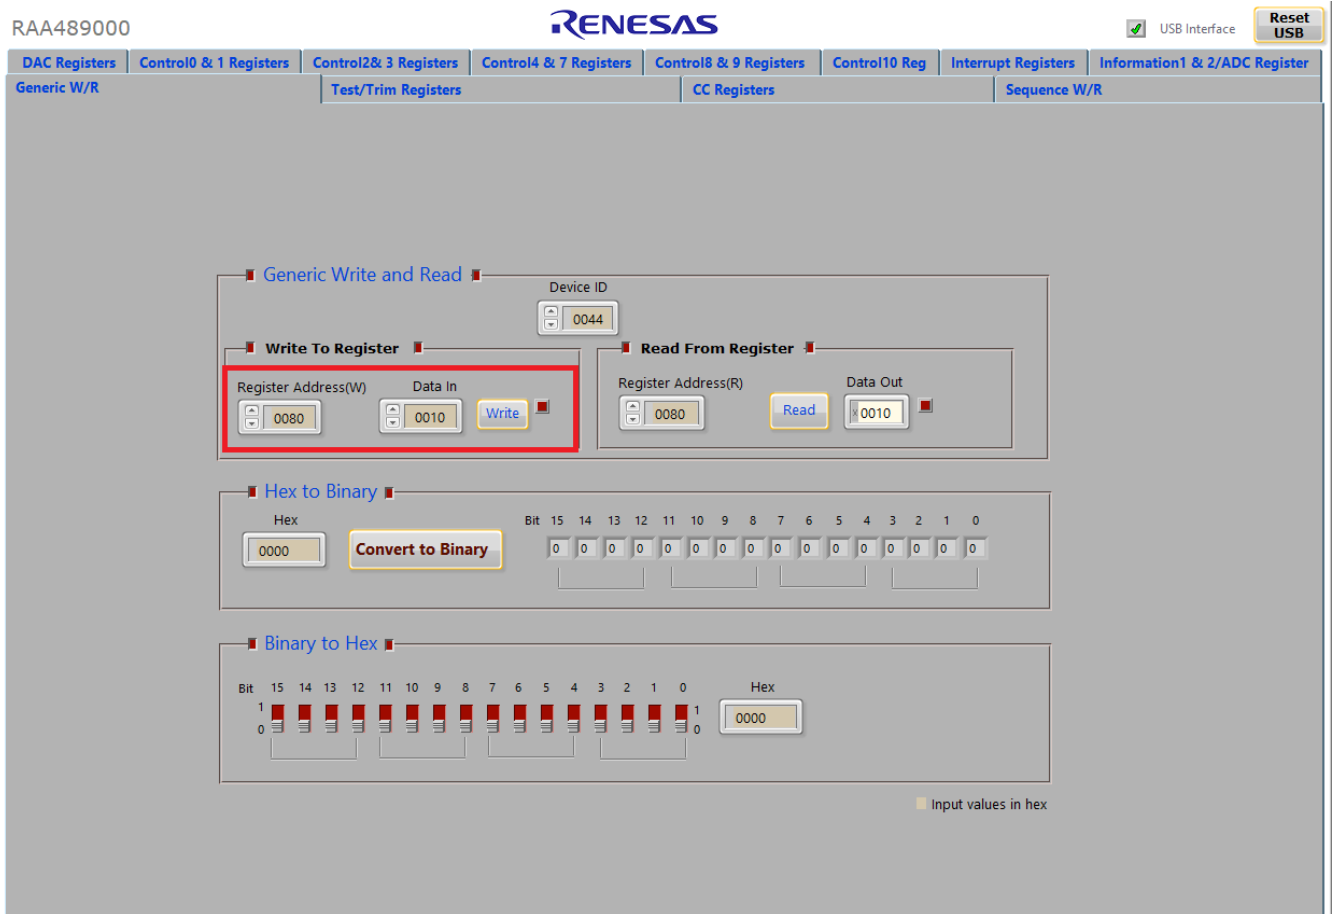

Figure 12. Enabling TCPC to Control Power
5. In the **Write To Register** box, set **Register Address** to 0x0080 and **Data In** to 0x0010, then click **Write** to enable TCPC to control power. See Figure 12.
5. In the **Write To Register** box, set **Register Address** to 0x0080 and **Data In** to 0x0010, then click **Write** to enable TCPC to control power, see Figure 12. Measure VSYS using the DMM across (+) and (-). VSYS should read 0 now.